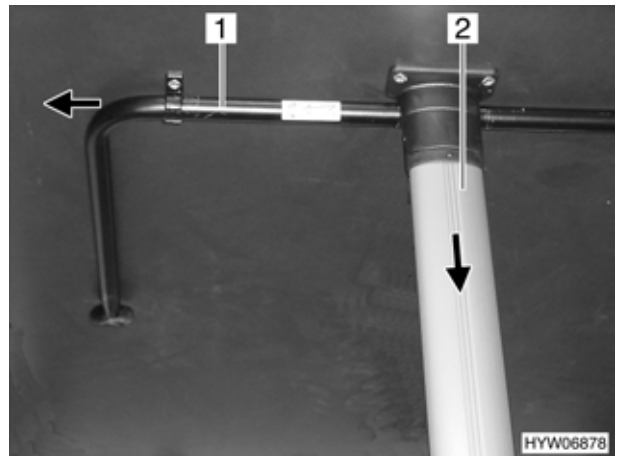

Fig. 64 Leg of the dinette table (variant 2)
- Push the support (Fig. 64,1) in the direction of the arrow, and fold it out.
- Push the table leg (Fig. 64,2) in the direction of the arrow, and fold it in.